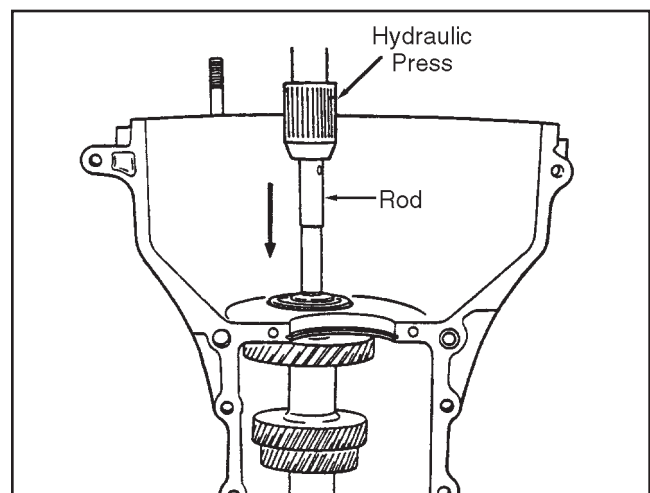

Figure 4H-8. Countershaft — Step 5
1. Refer to Figure 4H-9, remove the oil seal, retaining ring, bearing and input shaft. Pull out the input shaft, by hand, taking care not to drop the high speed synchronizer rings.